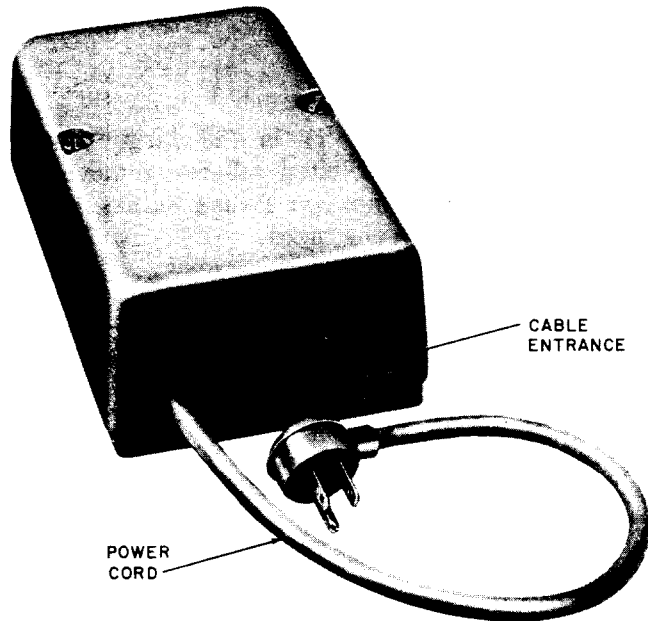

Fig. 4—21A Power Unit
2.10 The 51A dial is powered by a 21A1 power unit (Fig. 4). This power unit is not furnished with this set and must be ordered separately.